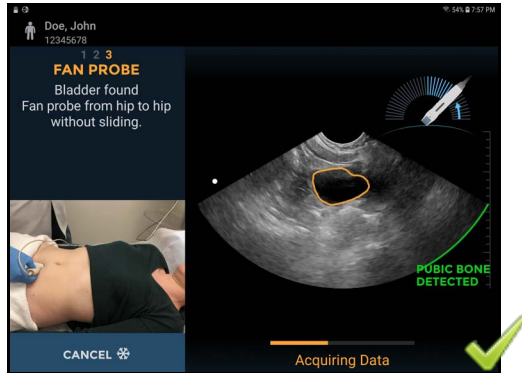

FIGURE 22. Maintain consistent pace
- Maintain consistent pace and pressure during the scan (FIGURE 22. Maintain consistent pace).